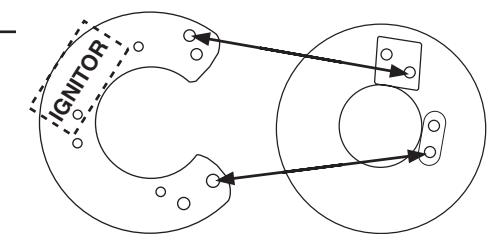

FIGURE 2
- Large Distributor Cam (1.00"): Ignitor and Adapter Plate installation (See figure 2).